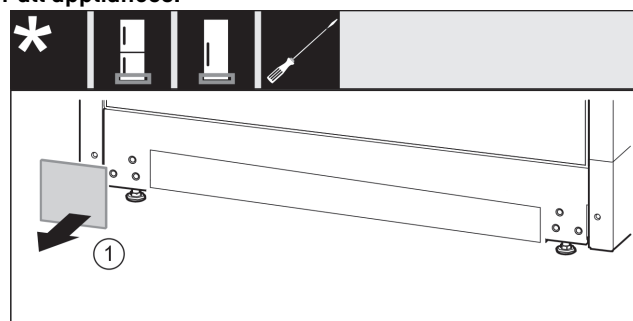

Fig. 16
- Take off the cover. Fig. 16 (1)